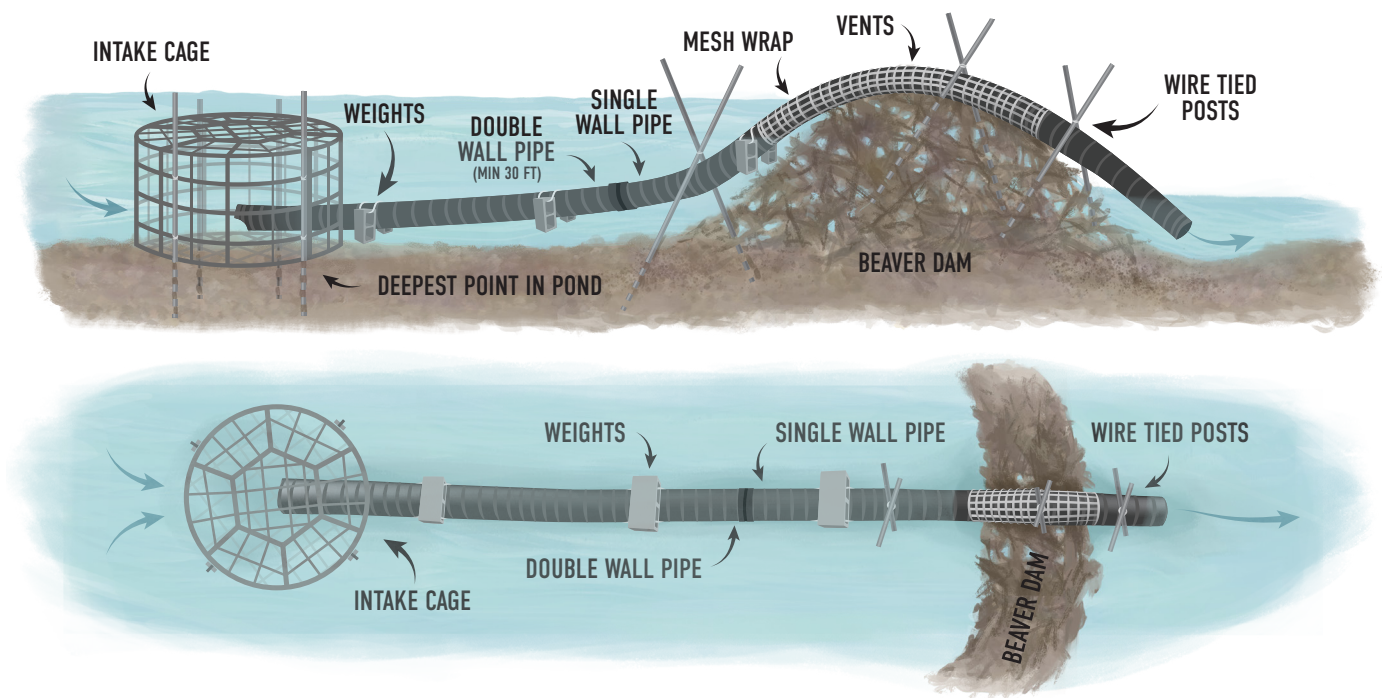

Figure 1. Standard pond leveler with no modifications.
Pond levelers are a coexistence solution for conflicts between beaver-facilitated wetland habitat and human infrastructure, crops, or homes. These flow devices are applicable when the landowner is willing to allow the beaver dam and pond to remain but wants to control the maximum water height. The goal of a pond leveler is to minimize the disruption to the beaver family and their habitat, so they do not abandon the site, while establishing a maximum water height and footprint which protects the landowner's assets. Pond levelers set the water surface elevation of a beaver pond by using a plastic culvert pipe to create a leak over the crest of the dam that beavers cannot repair. The intake for the leak is hidden upstream within the beaver pond and is enclosed within a cage to keep beavers from swimming near enough to sense the flowing water. Similar to an overflow drain on a bathtub which limits the water depth, a pond leveler leaks water over the crest of the beaver dam at a desired water surface height during the low flows when beavers might otherwise increase the height of the dam (Figure 1). The outlet of this pond leveler is placed downstream of the dam.
- **Stabilized flow device:** Staking the intake cage is only necessary where the intake cage is subjected to discernible flows. At these sites, firmly stabilize the intake cage and pipe to keep beavers from moving it and to minimize the need for adjustment after high-flow events. The pipe can be held in place at the dam using steel posts and the intake cage and pipe can be held in place with either steel posts or weights (Figure 1).
2. Select the upstream location for the intake cage. Prioritize maximum water depth, pond width, and the distance from the dam (in that order). Install the intake cage at the deepest point in the upstream pond as far from the beaver dam as the site allows (Figure 1). If possible, place in a sheltered area (like the inside bend of a stream channel slightly outside the thalweg) to minimize debris accumulation during high flow events.
5. Stake the pipe and intake cage in place where possible with steel posts. Where the water is too deep or substrate is too hard (or soft), weigh pipe and intake cage down with concrete blocks or steel weights (Figure 1).
6. Wrap any exposed single wall pipe on the crest of the beaver dam with a wire mesh wrap, typically hardware cloth, to dissuade beavers from chewing into the pipe (Figure 1). Double wall pipe does not need to be wrapped.
13. Run the pipe downstream of the dam a minimum of 4' or into the downstream pool (Figure 1). The location of this outlet will impact fish movement. Coordinate with your state-specific fish and wildlife agency on the outlet design and fish movement considerations. Reference the Appendices for fish specific and state-specific criteria.